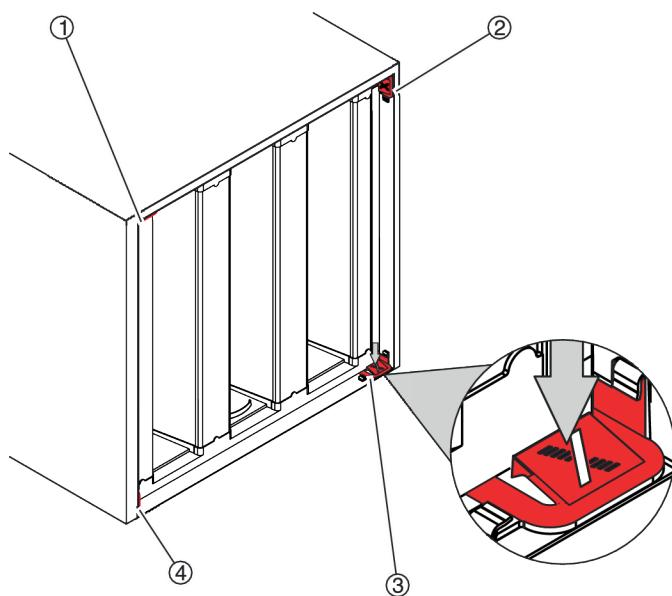

Fig. 19: Loosening the clips
3. ▶ Press down the clips (Fig. 19/1 to 4) in the corners one after the other.